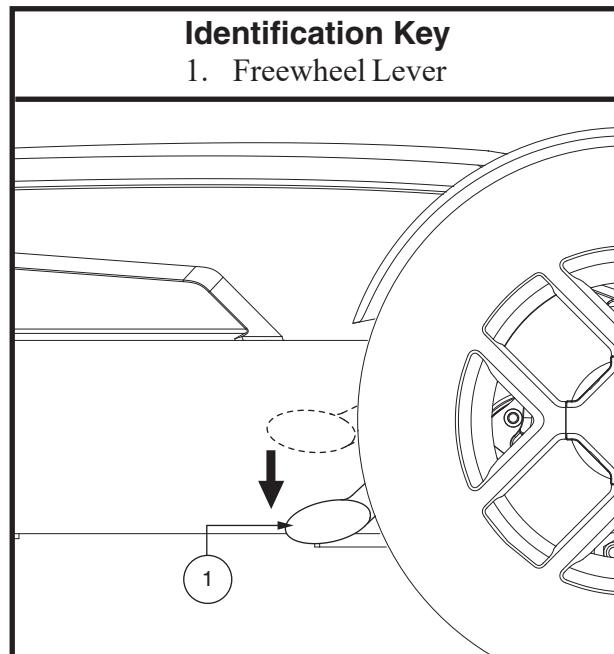

Figure 6. Freewheel Mode (Drive Disengaged)
3. Push both levers downward to disengage the drive motors (freewheel mode). See **figure 6**.